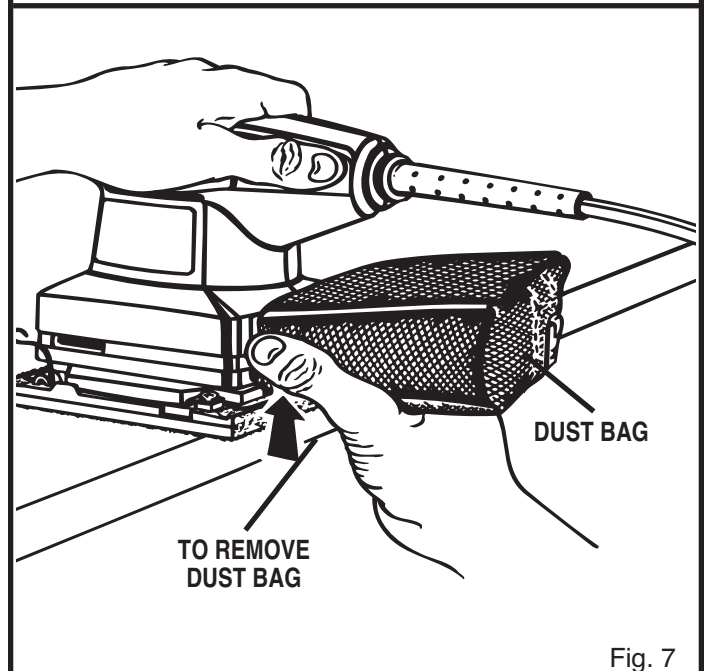

Fig. 7
See Figure 7.
- Slide dust bag retainer from sander as shown by the arrow in figure 7.